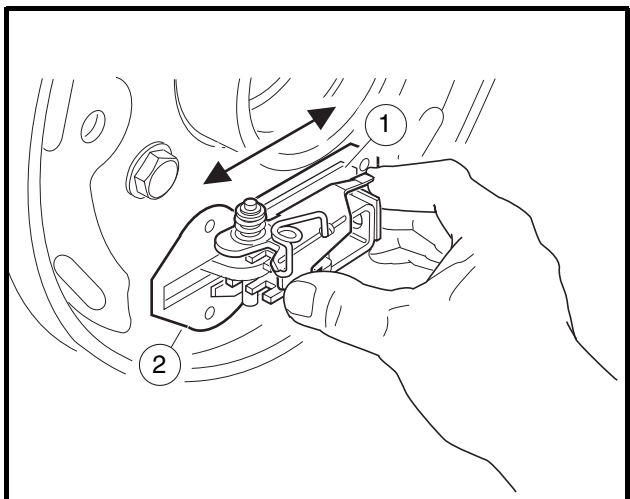

Figure 6-8 Lubricate Slide and Slide Plate
3. Lubricate the slide (1) and slide plate (2) with dry moly lubricant (CCI P/N 1012151) on both sides of the backing plate (**Figure 6-8, Page 6-4**). After lubricating, work the slide back and forth to ensure that it slides smoothly and easily. Reinstall rubber boot onto backing plate. **See following WARNING.**